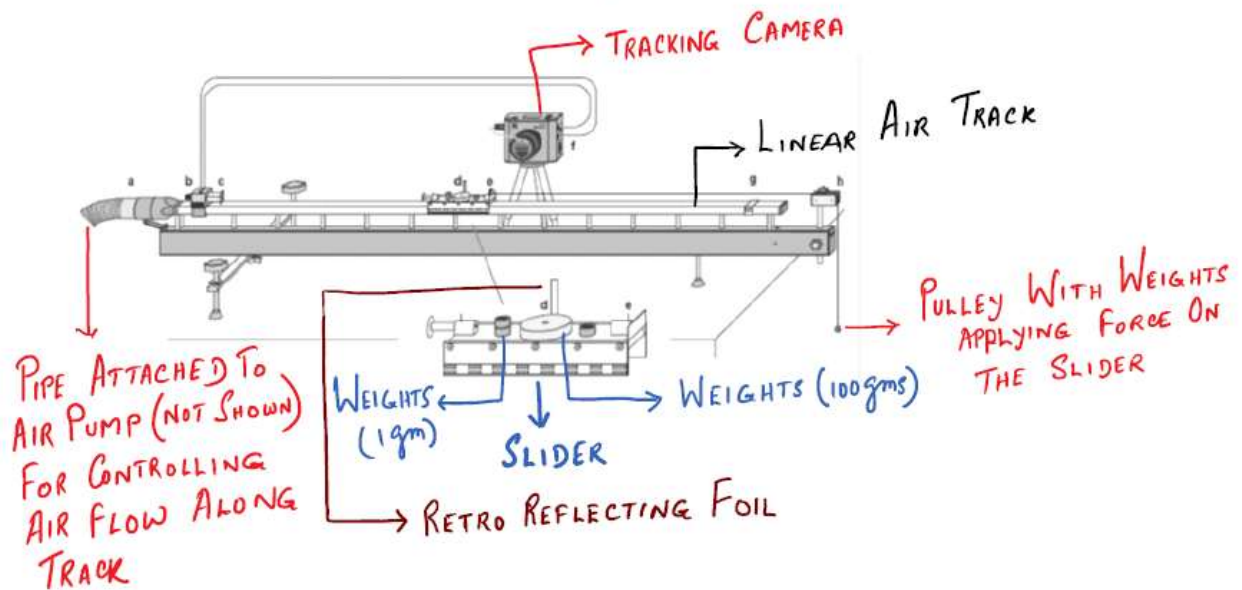
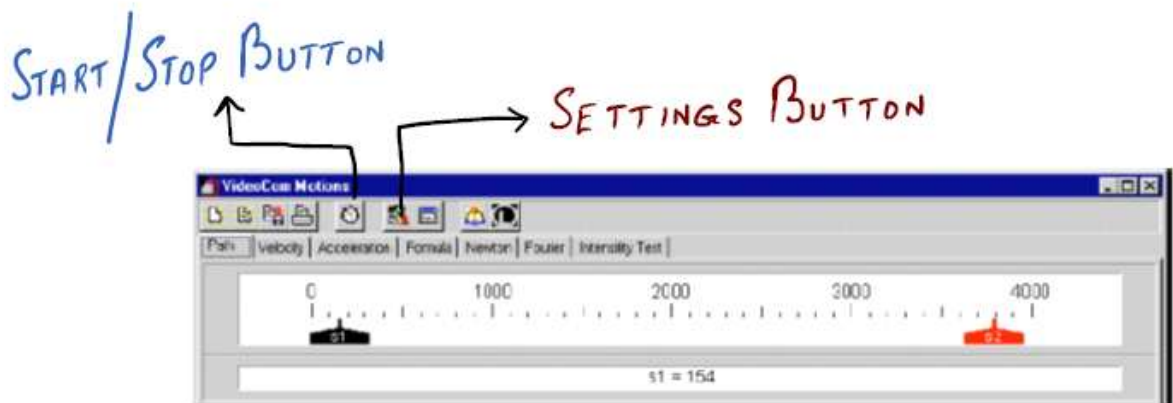

Fig.1
Fig.2
Fig. 2 shows a snapshot of the videocom software that you will see when you start the software.
Make sure the slider position is detected by the camera both at the beginning and at the end of the motion when it hits the metal barrier placed on the air track. This can be done by placing the two sliders at two ends of the air track (separated by a distance of 1m) and adjusting the camera position to capture the light reflected by the Retroreflecting Foils attached to the sliders (see Fig.1) When motions are to be recorded, the camera looks for the reflections of the retroreflecting foil.
- To verify that the positions of both sliders are detected by the camera, click on the “Intensity Test” tab of the videocom software (shown in Fig.2)
- The slider placed at the beginning of the track (the end near the pipe of the air pump in Fig.1) is held by means of a holding magnet. The slider can be released by pressing the START/STOP button in the videocom software window.
The **holding magnet** (near the end of the air pipe in Fig.1) is used for synchronizing the start of the motion and the measurement. Pressing the START/STOP button on the software window (Fig.2) demagnetizes the holding magnet thereby releasing the slider which was previously attached to the holding magnet.